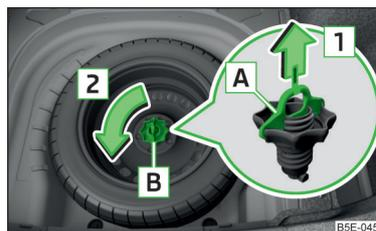

Fig. 320
The wheel is located in a well under the floor covering in the boot and is fixed in place with special bolt **B** » Fig. 320.
- › Remove locking **A** in the direction of arrow **1** » Fig. 320.
- › Screw in nut **B** in the opposite direction to arrow **2** » Fig. 320.